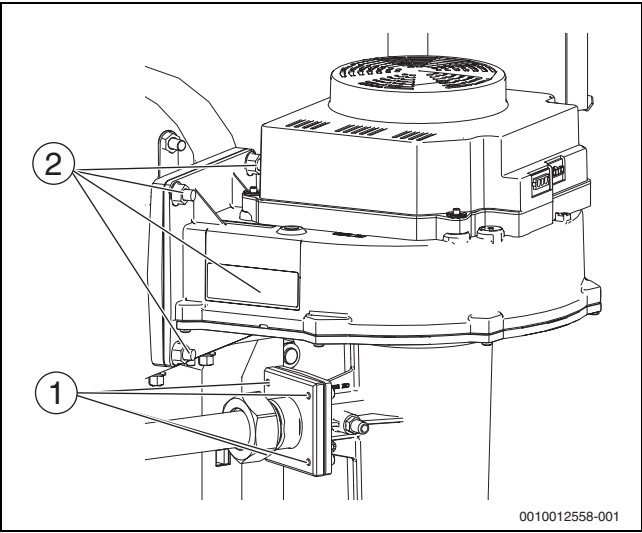

Fig. 61 Removing the fan (boiler rating 150-300 kW)
- Unscrew the mixture flange by removing the 4 nuts on the venturi (→ Fig. 61, [1]).
- Unscrew the fan by removing the 4 nuts on the mixture manifold (→ Fig. 61, [2]).